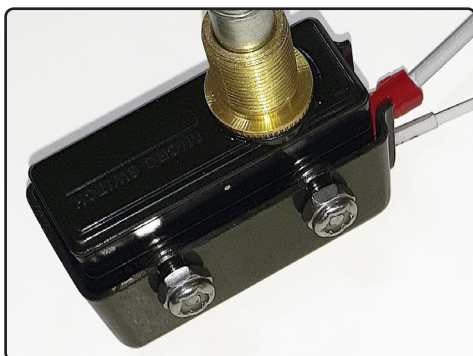

Figure 33 Intrusion Detection Micro Switch with Cover
4. Cover Switch 1 with the provided cover, fitting the spacing washers inside the cover. Tighten the switch cover screws (Figure 33).
1. Pre-install the two screws, spacing washers, and nuts which will be used to secure the switch cover, in the same manner as Switch 1 (Figure 33). These are provided in the kit hardware bag.
4. Cover Switch 2 with the provided cover. Tighten the switch cover screws (Figure 33).